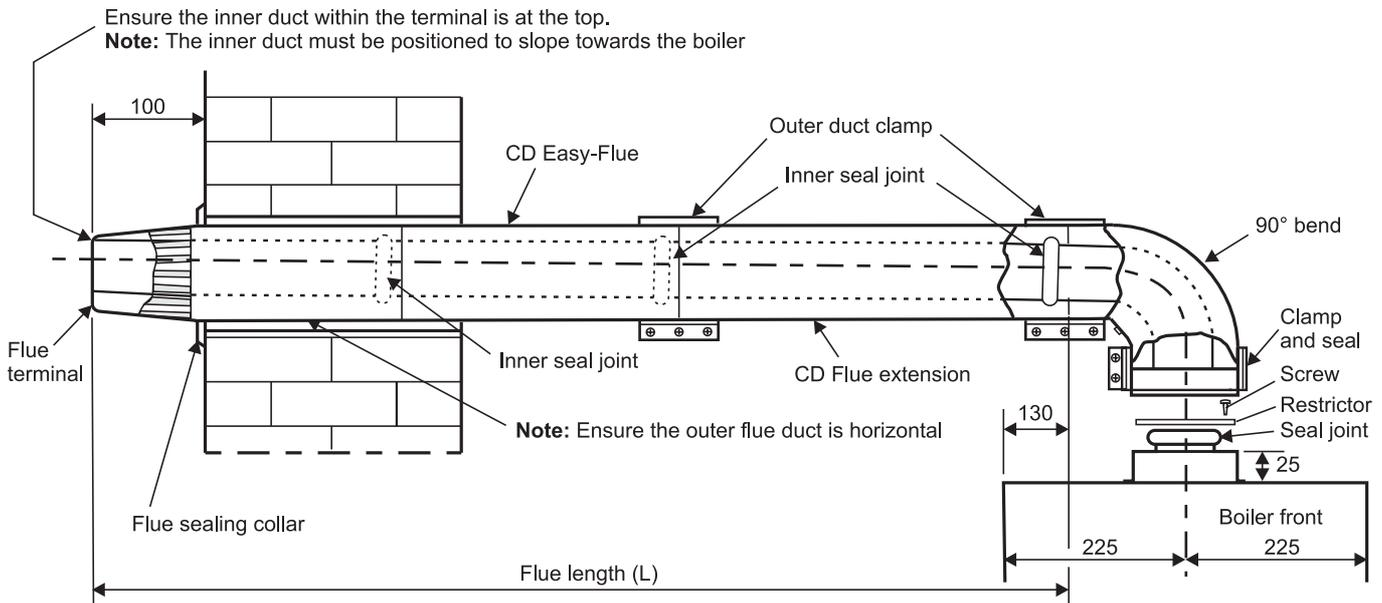

Fig. 19 - Side flue
4.7 EXTENDING THE FLUE - Fig. 19
2. If the flue is more than 0.5 m, the restrictor must be removed from the boiler flue adaptor, (see Fig. 19)
Note: Check the flue terminal protrudes 100 mm out of the wall and that the inner duct of the terminal is positioned correctly, i.e. the inner duct within the terminal is at the top. See Fig. 19.